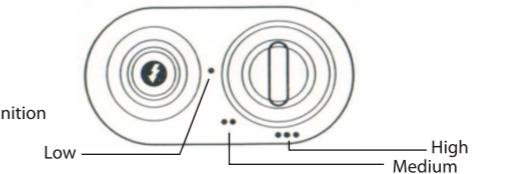

Fig. 2
- Press and slowly turn the gas control knob on the control panel to \* position (Fig.2). Keep the gas control knob pressed for 20-30 seconds. At the same time, press the piezo-ignition button several times, until the pilot lights up. Every time you press the piezo-ignition button, you can hear a loud click and see a spark on the piezo-ignition electrode. Continue keeping the gas control knob pressed for 10-15 seconds after ignition of the pilot flame in order to activate the flame detector.